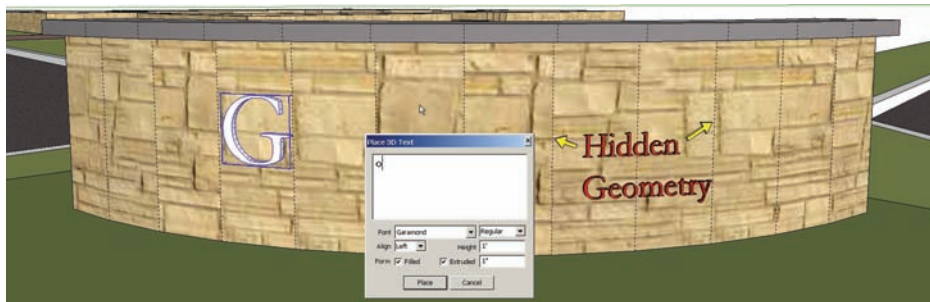

Fig. 7-45: To create a sign, add 3D text to the wall face.
- b. Place a single letter on each face (Fig. 7-45).